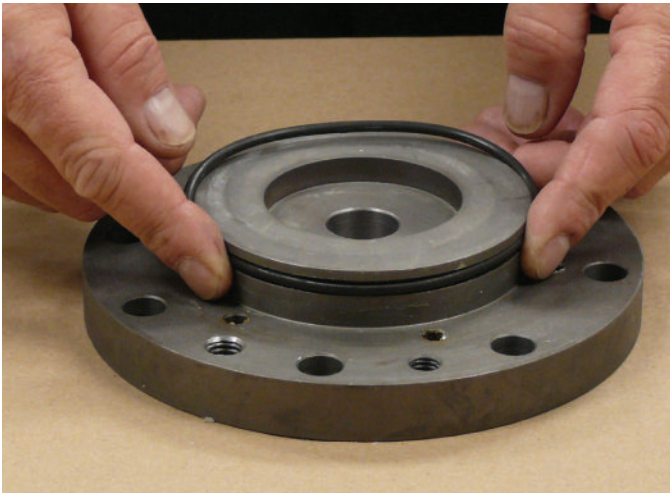

Figure 9-30 Install O-ring on Cylinder Head
11. Install O-ring (Item 14) on cylinder head (Item 7). (Figure 9-30)